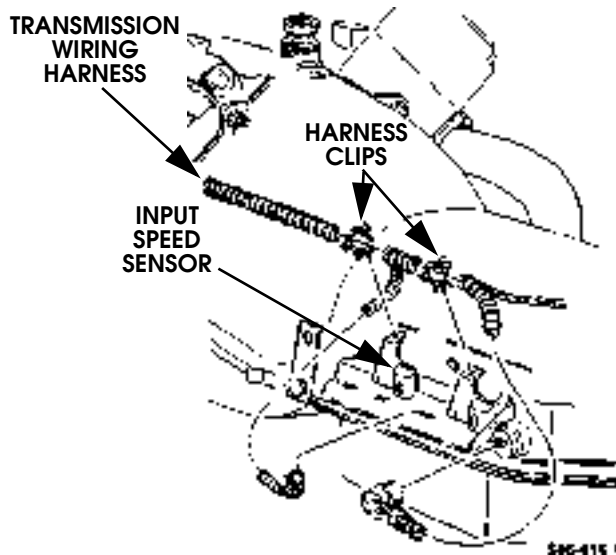

Figure 5-50: Speed Sensor Connections
9. Disconnect harness wires at transmission input speed sensor (Figure 5-50).